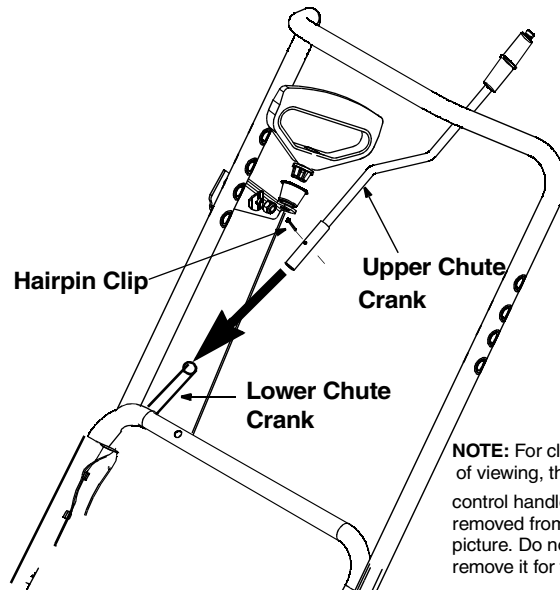

Figure 2
- Re-insert the hairpin clip into the hole to secure the two chute cranks. See Figure 2.